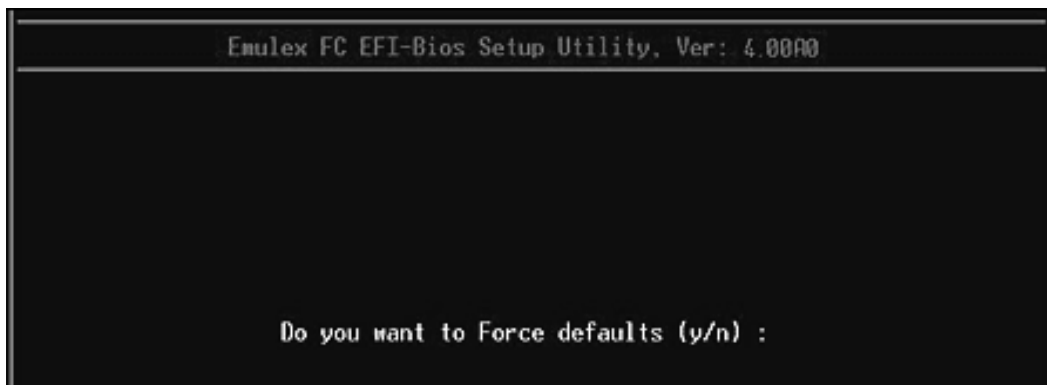

Figure 49: Force Defaults Dialog screen
1. On the EFI-BIOS Setup Utility menu (Figure 26) select **4. Reset to Default Values** and press **<Enter>**. The screen shown in Figure 49 is displayed.